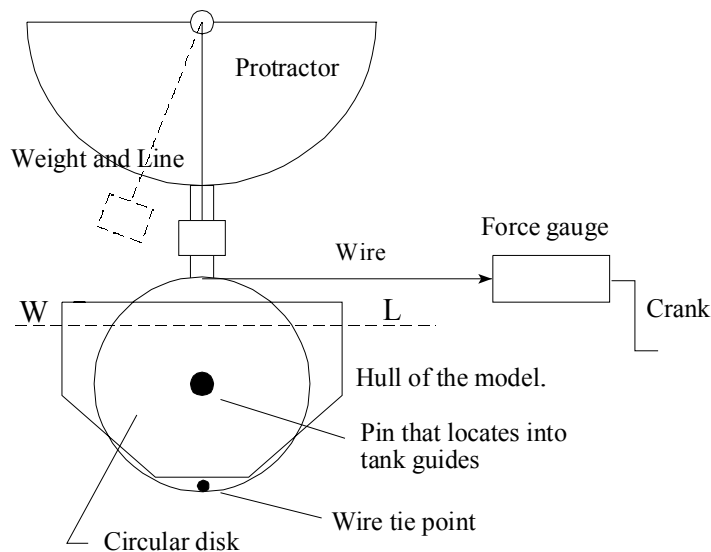

Figure 1 - Stern view of apparatus
1. The stern view of this apparatus is shown in Figure 1. A 27-B-1 model in its normally loaded condition is floated so that steel pins mounted on its bow and stern fit into vertical guides on the side of the tank. These pins hold the model in the center of the tank while allowing it to float freely in the vertical direction. The transverse center of gravity of the model will be shifted by moving weights to the starboard post.